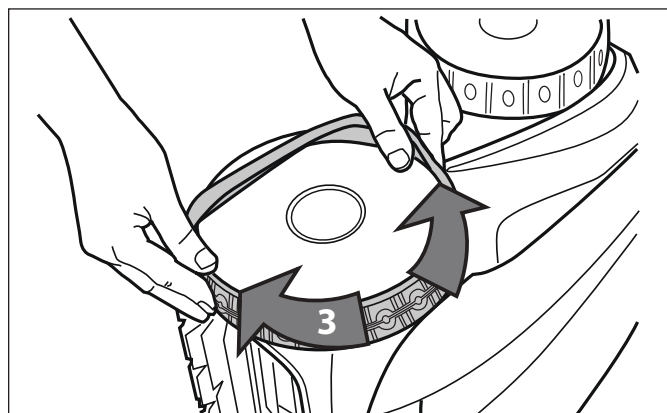

Figure 39. Work the Tire On Around the Wheel
5. Work the tire onto the wheel and verify the rib of the tire is positioned properly within the groove of the wheel. Refer to Figure 39